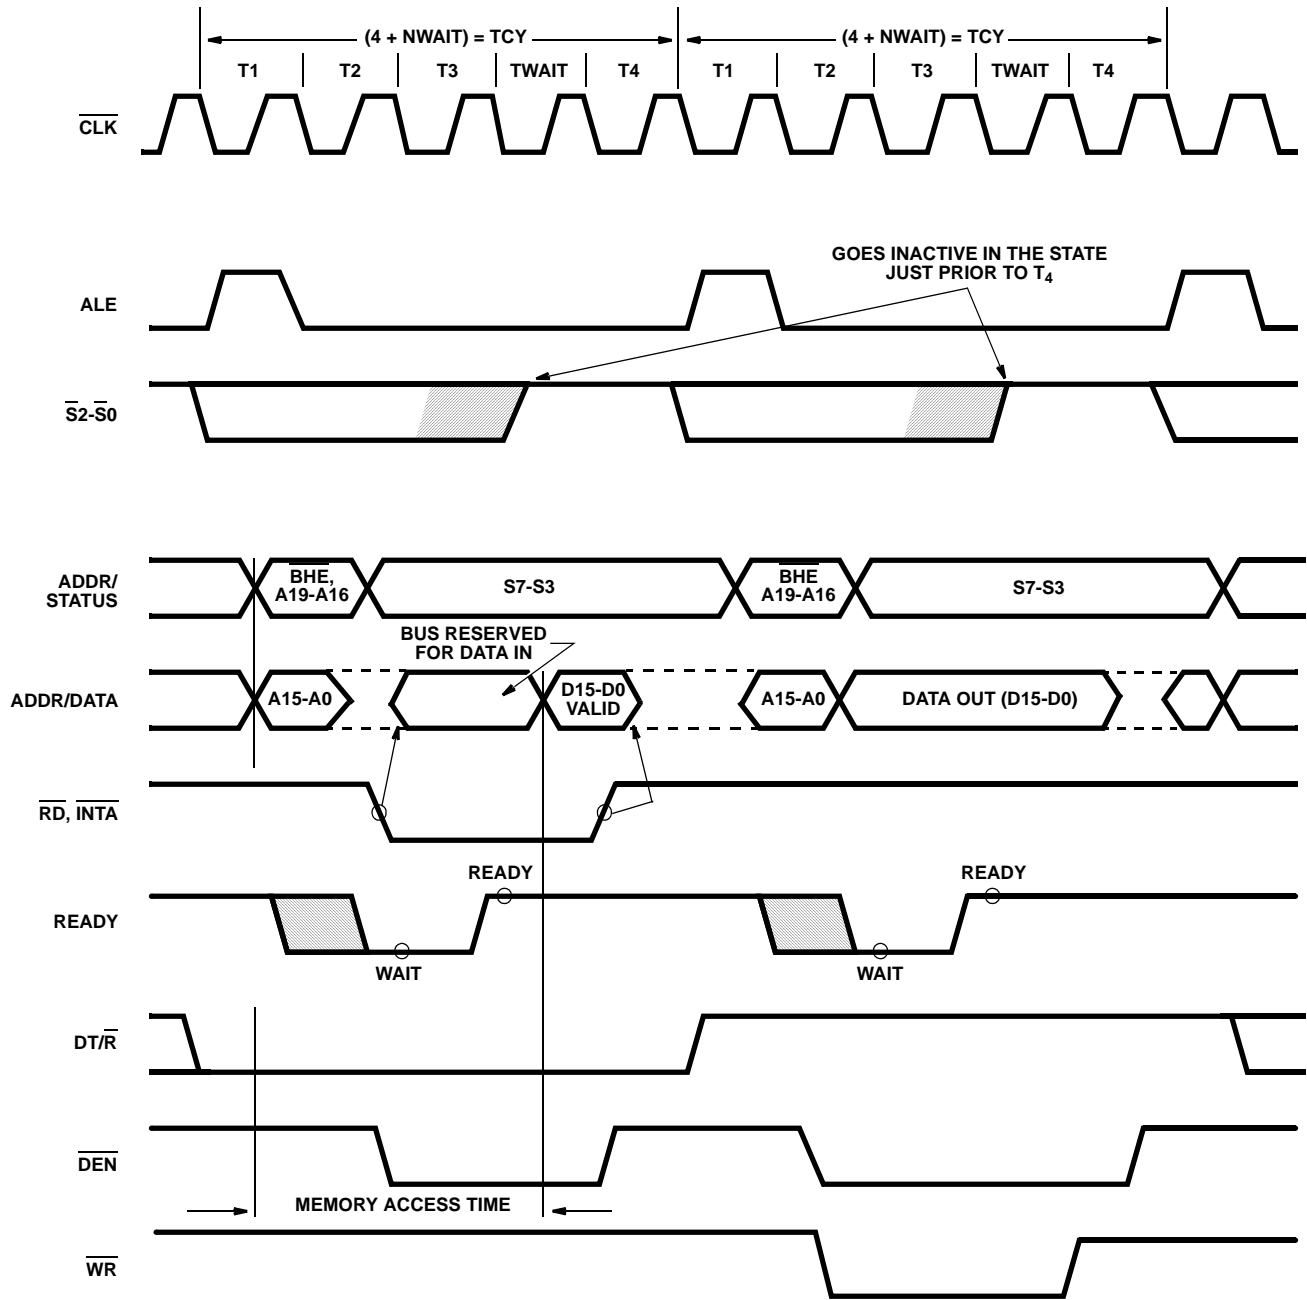
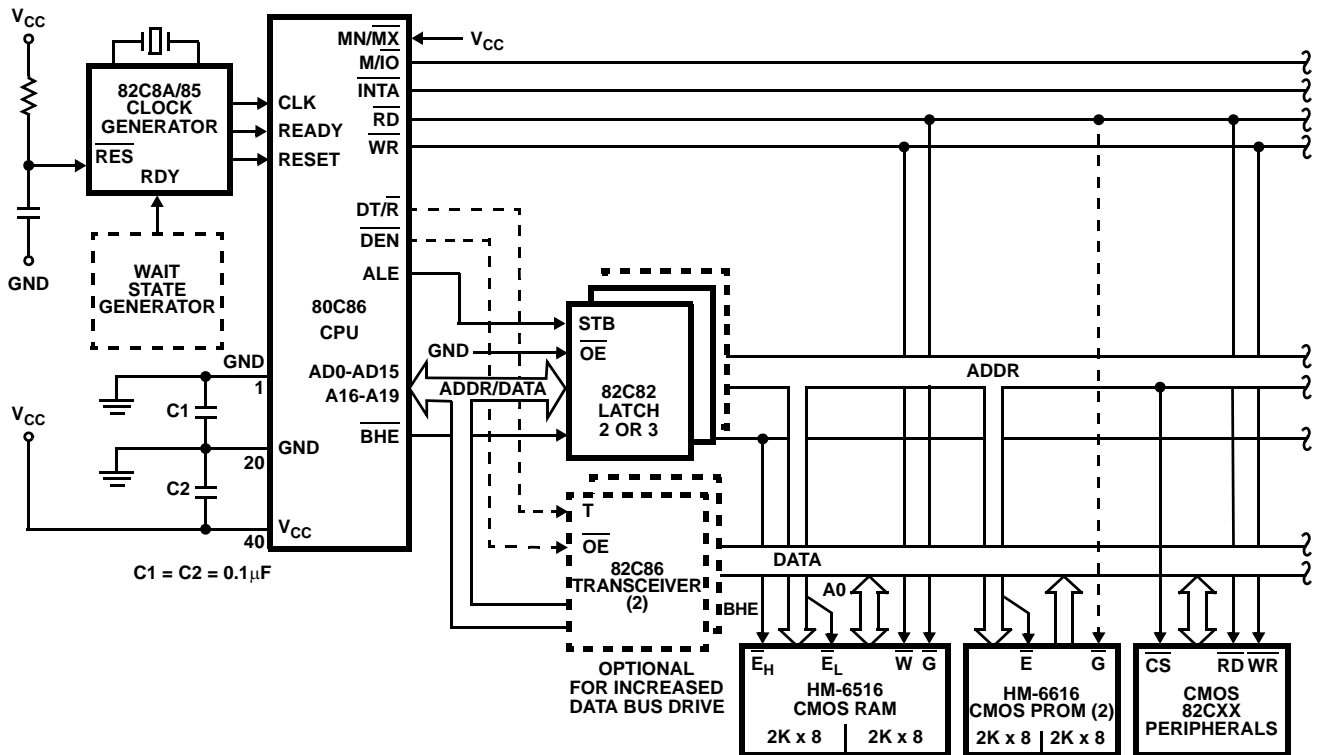

FIGURE 3. BASIC SYSTEM TIMING
FIGURE 6A. MINIMUM MODE 80C86 TYPICAL CONFIGURATION
The demultiplexed mode requires two 82C82 latches (for 64K addressability) or three 82C82 latches (for a full megabyte of addressing). An 82C86 or 82C87 transceiver can also be used if data bus buffering is required. (See Figure 6A.) The
Each processor bus cycle consists of at least four CLK cycles. These are referred to as T1, T2, T3 and T4 (see Figure 3). The address is emitted from the processor during T1 and data transfer occurs on the bus during T3 and T4. T2 is used primarily for changing the direction of the bus during read operations. In the event that a "NOT READY" indication is given by the addressed device, "Wait" states (TW) are inserted between T3 and T4. Each inserted wait state is the same duration as a CLK cycle. Periods can occur between 80C86 driven bus cycles. These are referred to as idle" states (T_i) or inactive CLK cycles. The processor uses these cycles for internal housekeeping and processing.
Typical system configurations for the processor operating in minimum mode and in maximum mode are shown in Figures 6A and 6B, respectively. In minimum mode, the MN/MX pin is strapped to VCC and the processor emits bus control signals (e.g. $\overline{\text{RD}}$, $\overline{\text{WR}}$, etc.) directly. In maximum mode, the MN/MX pin is strapped to GND and the processor emits coded status information which the 82C88 bus controller uses to generate MULTIBUS compatible bus control signals. Figure 3 shows the signal timing relationships.